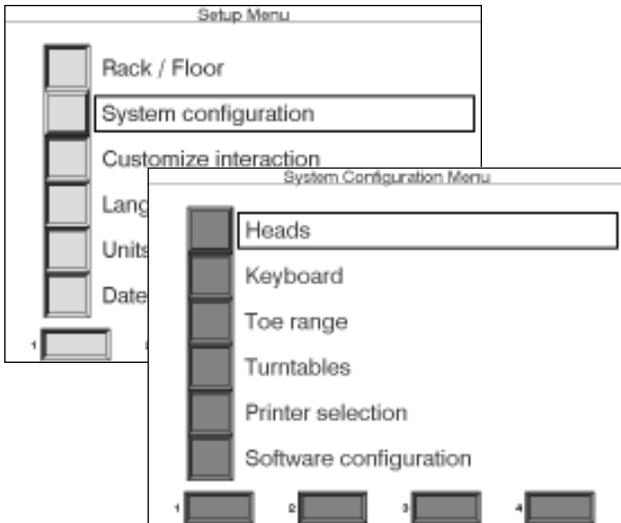

Figure 3 -- Setup and System Configuration
1. From the Main Menu, select "Setup". Choose "System Configuration", and the "Heads". See Figure 3.